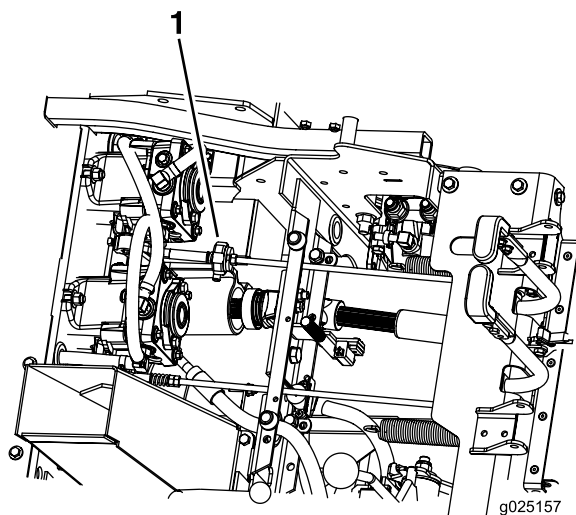

Figure 44
6. Check and ensure the machine does not creep when in neutral with the park brakes disengaged (Figure 44).